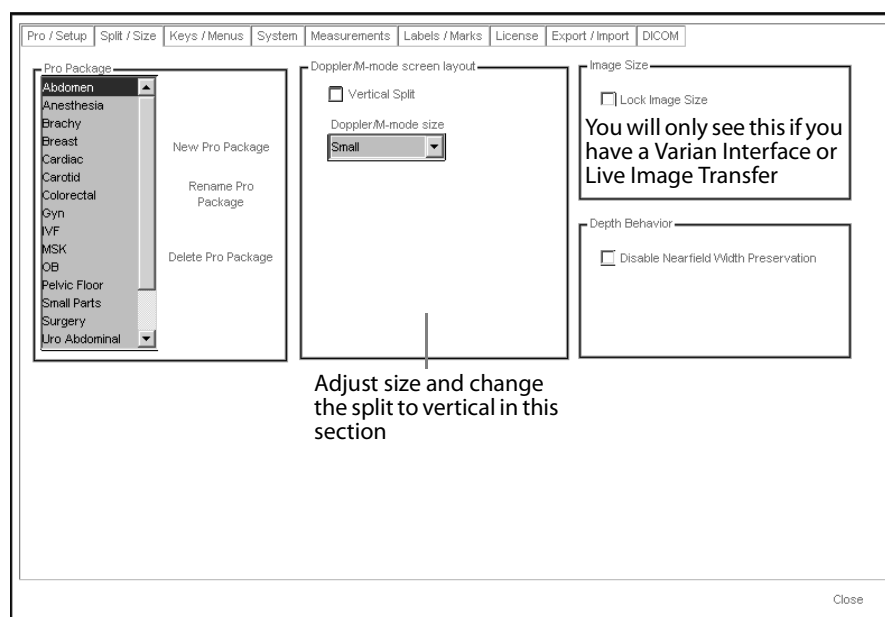

Figure C-2. The Screen Layout Setup window.
**NOTE:** If you have the VariSeed or Live Image Transfer licenses activated, the image size is locked by default for the Brachy Pro Package. See Fig C-2.